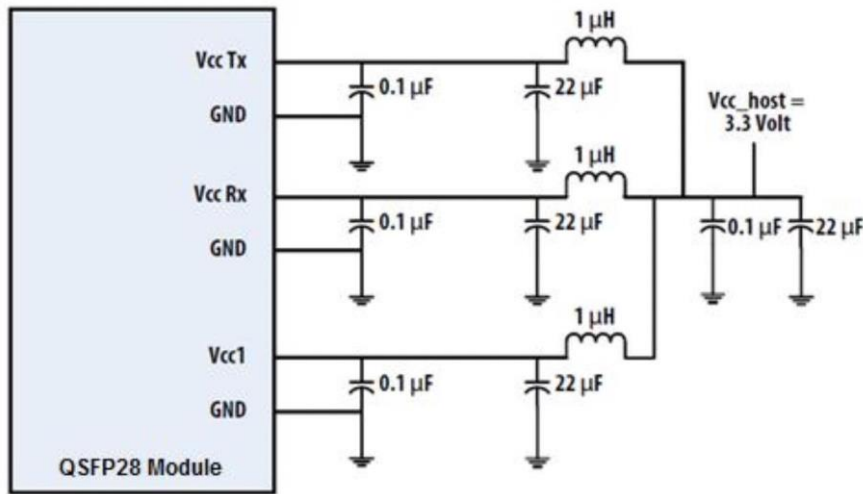

Figure 4. Recommended Power Supply Filter
2. VccRx, Vcc1 and VccTx are the receiver and transmitter power suppliers and shall be applied concurrently. Recommended host board power supply filtering is shown in Figure 4 below. Vcc Rx, Vcc1 and Vcc Tx maybe internally connected within the QSFP28 transceiver module in any combination. The connector pins are each rated for a maximum current of 1000mA